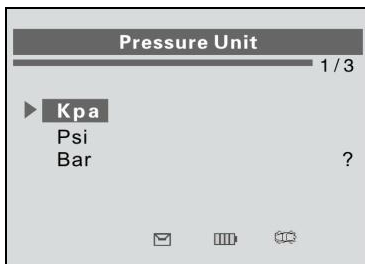

Figure 2.7
- 2) From **Pressure Unit** screen, use the **UP/DOWN SCROLL** button to select the desired unit: Kpa, Psi or Bar. (Figure 2.7)